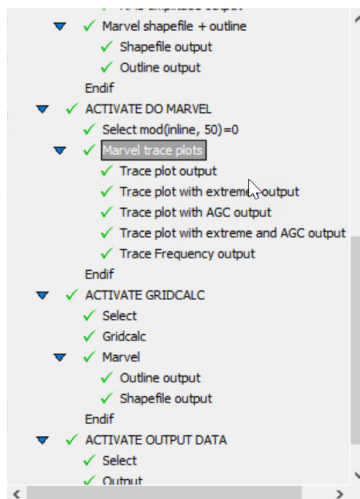

Figure 5-23 Marvel blocks in job flow
2. Each Marvel block can contain one or more Marvel output sub-blocks that normally share a set of attributes and types thus the Marvel block can set default values for the child Marvel output sub-blocks (Figure 5-23 below).